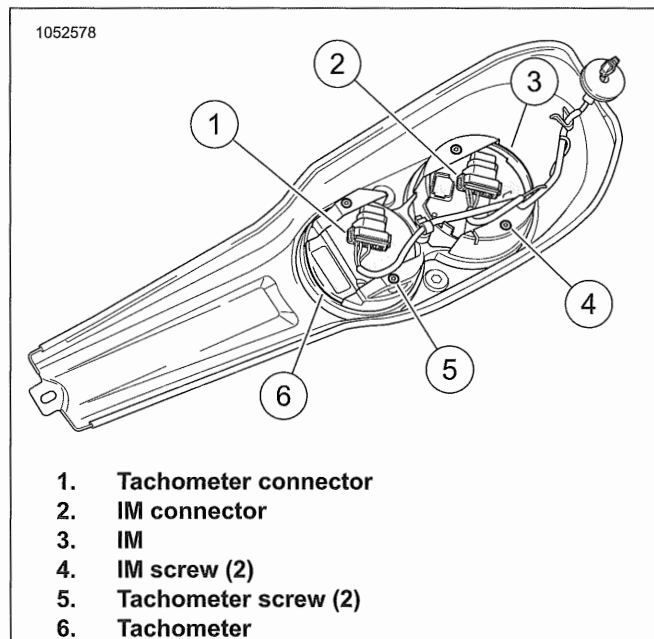

Figure 7-36. Console: FXLR
1. See Figure 7-36. Disconnect tachometer connector (1).
2. Remove tachometer screws (5).
3. See Figure 7-36. Install tachometer screws (4). Tighten.